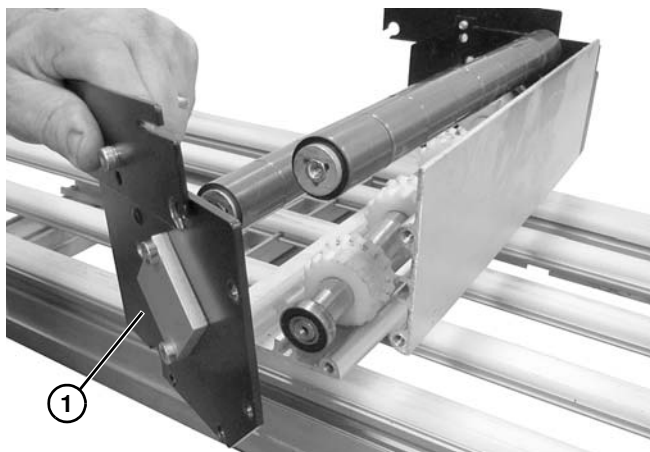

Figure 51
8. Remove side plate (**Figure 51, item 1**).